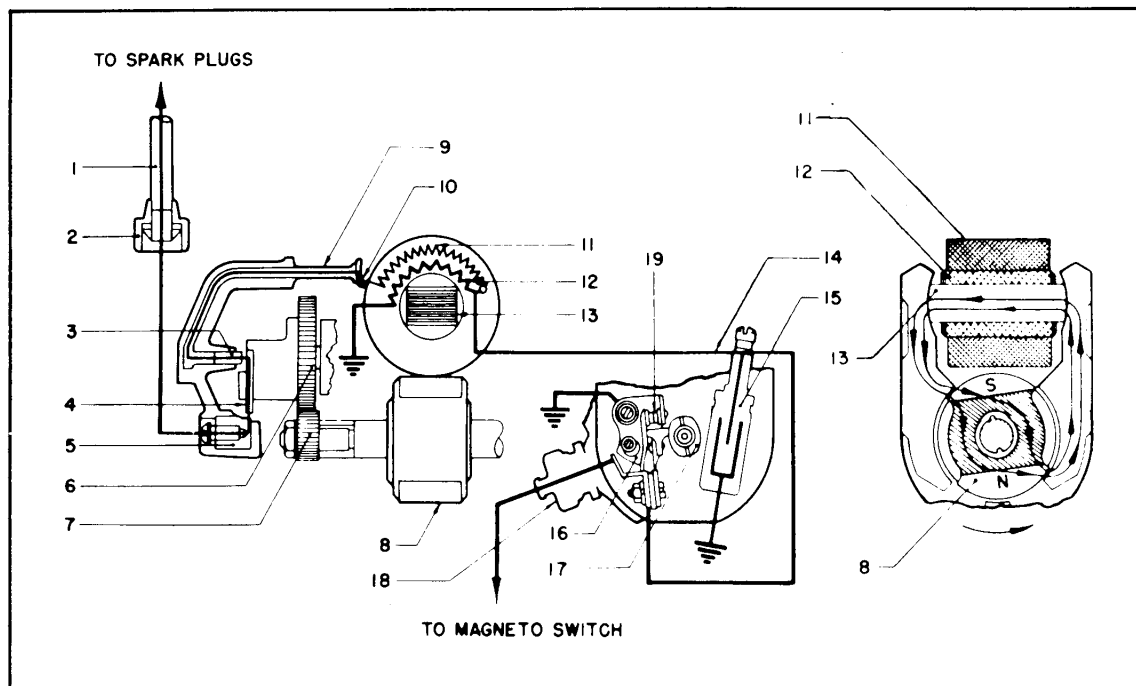

Figure 3. Schematic Diagram, Electric and Magnetic Circuits
(See figure 3) The magnet rotor assembly (permanent magnet (8) and two laminated poles), rotating in the housing tunnel, sets up a magnetic flux. The housing pole shoes, bridged at their upper ends by the laminated coil core (13), completes the magnetic flux circuit. The direction of the magnetic flux through the coil is reversed twice for each revolution of the magnet rotor. Reversal of the flux generates a current in the primary winding (12) of the coil. This current represents energy which is stored in the magnetic circuit due to changing the magnitude and direction of the flux. Opening the breaker contacts (19) actuated by the breaker cam, interrupts the